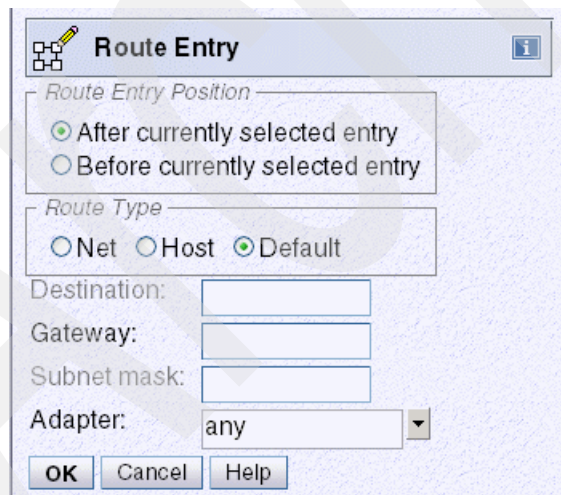

Figure 2-30 Route Entry
10. Make the appropriate selections and entries on the Route Entry panel (Figure 2-30):